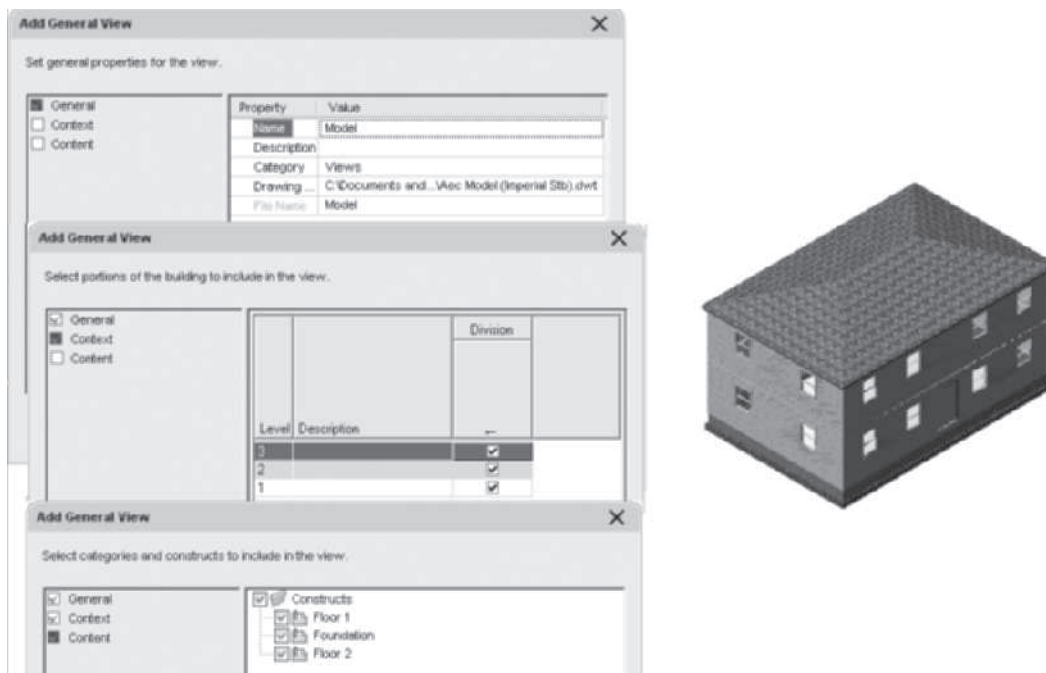

FIGURE 12.2 Defining the model View drawing
6. Edit the **Add General View** dialog box: type **Model** in the drawing field of the **General** page, as shown in Figure 12.2. Click **Next** to open the **Context** page and check Level 1 [G], Level 2 [1], and Level 3 [2] for Division 1. Click **Next** to open the **Content** page and verify that all constructs are selected for the levels. Click **Finish** to dismiss the **Add General View** dialog box.
7. Double-click the **Model** View drawing in the **View** tab to open the drawing as shown at the right in Figure 12.2.